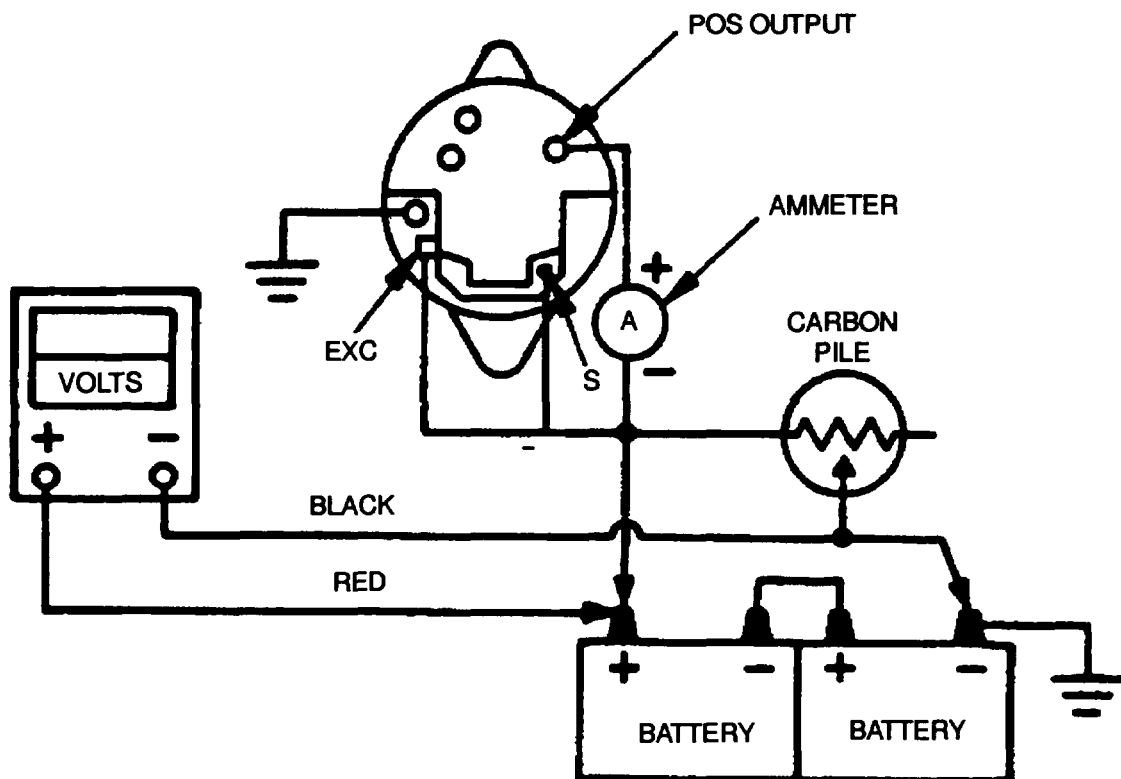

Figure 4-9. Performance Test Circuit
- (2) Set up test circuit as shown in Figure 4-9.